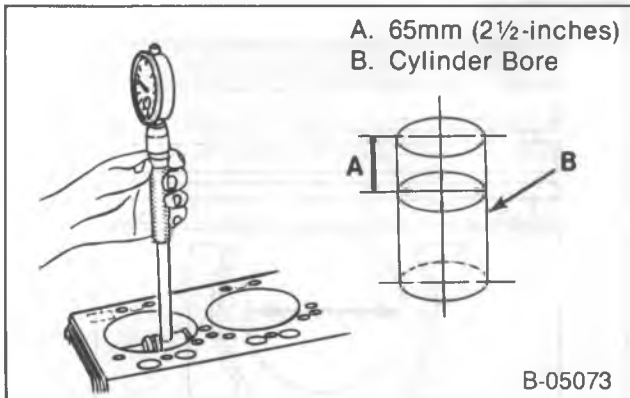

Figure 11—Measuring Cylinder Bore Diameter
Measure (Figures 11 and 12)
- Cylinder bore diameter. Use a telescoping bore gage, located 65 mm (2 1/2-inches) below the top of the cylinder bore (figure 11).